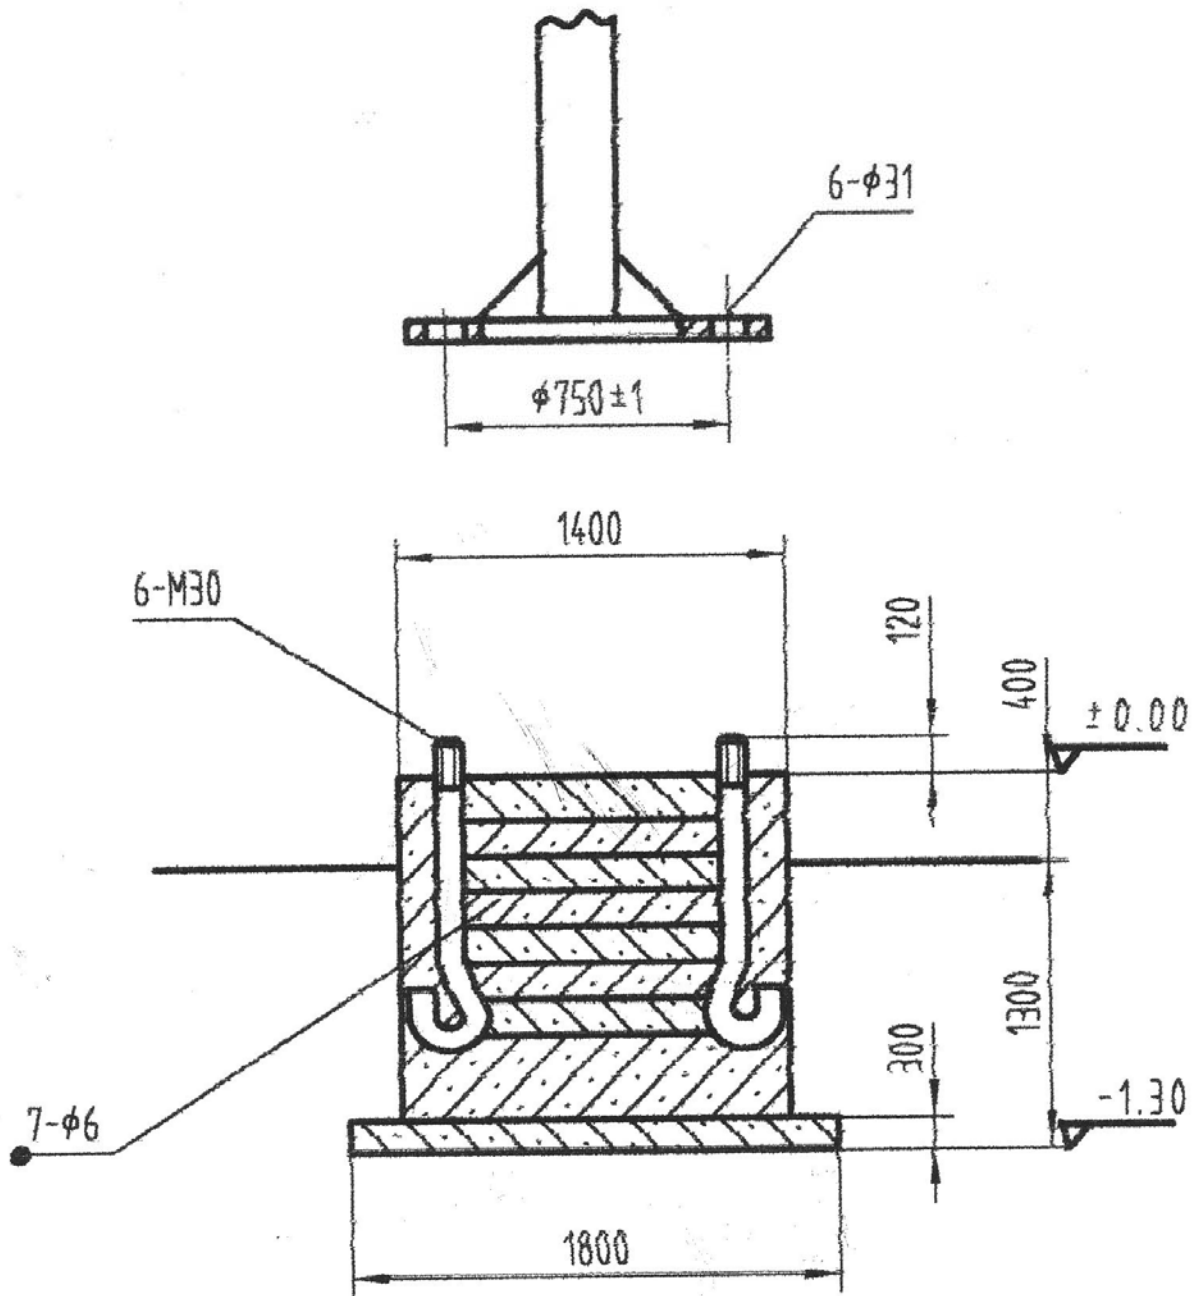
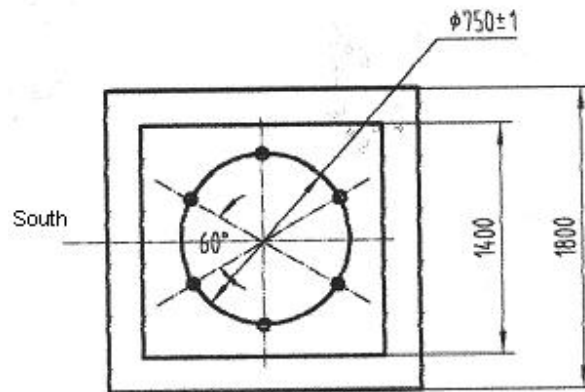

Figure 3. Side View of Pedestal and Foundation
Figure 4. Top View of Pedestal and Foundation
2. Install the pedestal onto the foundation by putting it vertically on the foundation with preinstalled bolts going through the corresponding holes at the bottom and fastening the nuts. Make sure the pedestal is perpendicular to the ground. Refer to Figure 3 and Figure 4 for this procedure.
Refer to Figure 3 for this step.